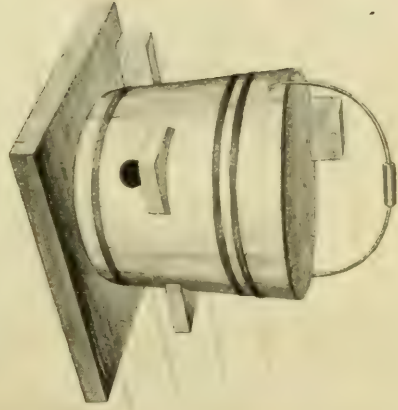

FIG. 486. A HOUSE AND SWING.
**A House and Swing** made out of a wooden pail inverted and bracketed to a wall as shown in Fig. 486, so that its